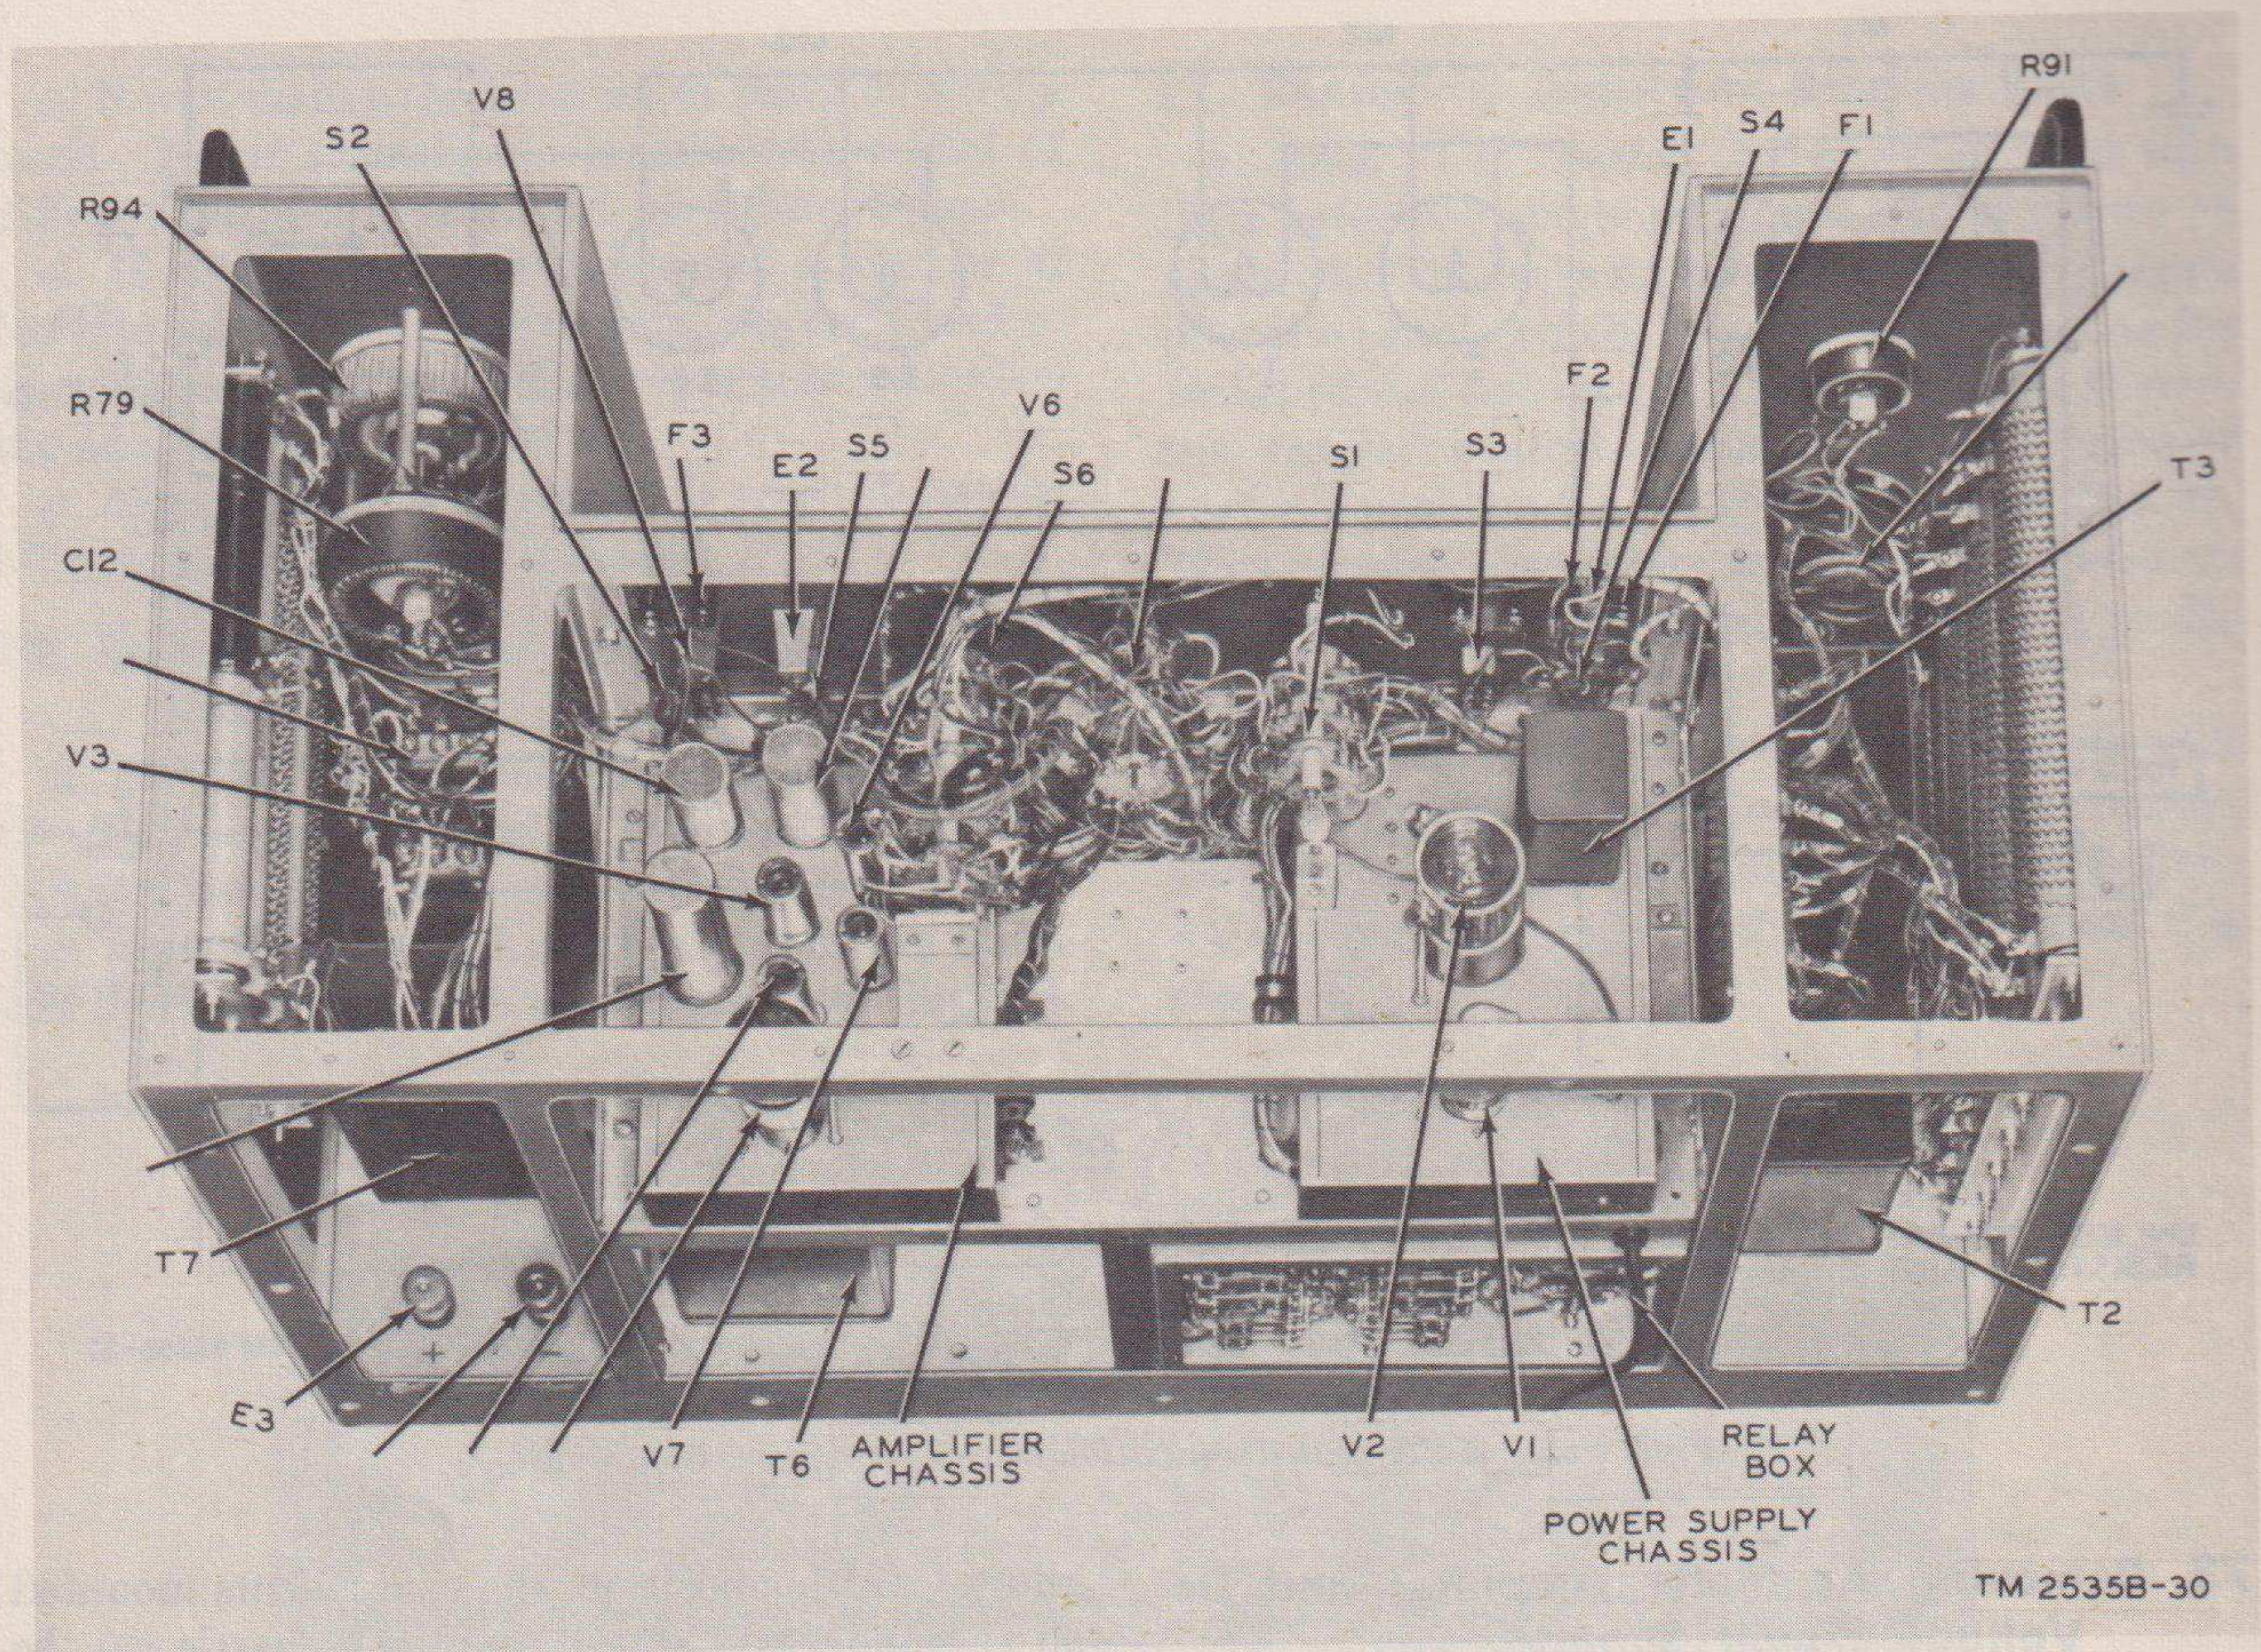
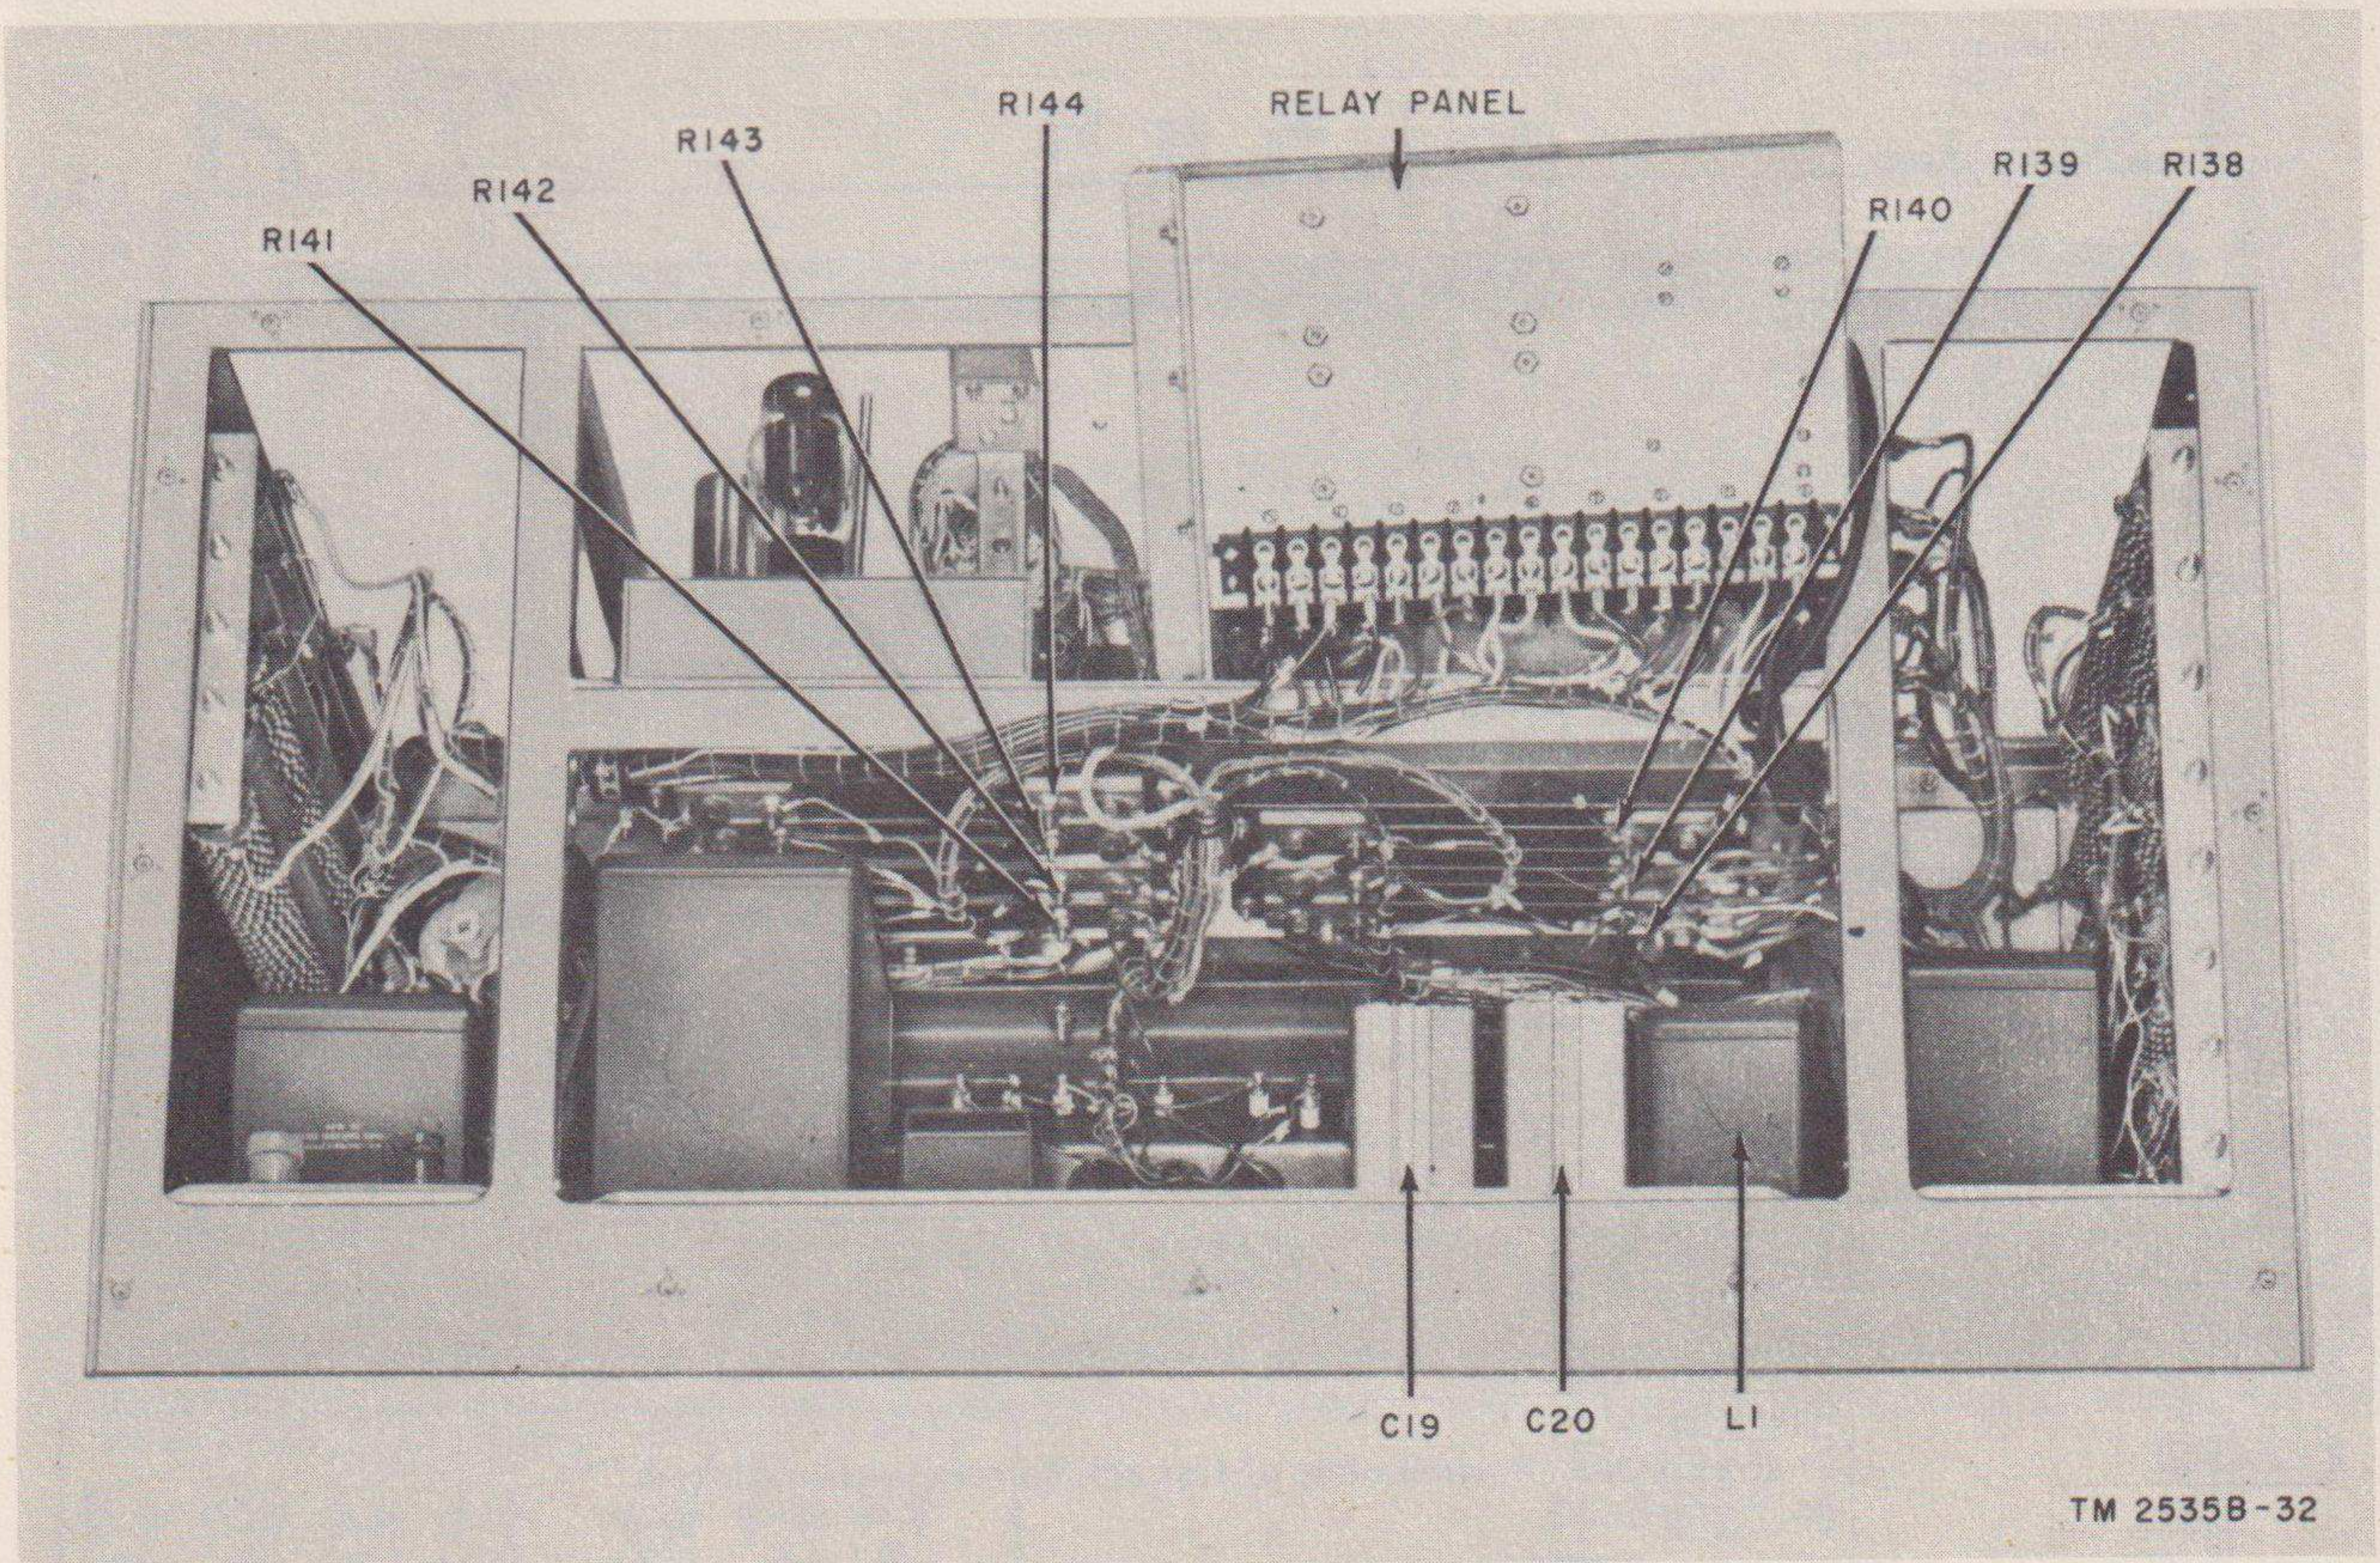

Figure 34. Top of test set, top and rear panels removed.
Figure 38. Rear of test set with relay panel removed.
Rectifier tube V1 defective (fig. 26)---	Test tube V1 (fig. 34, par. 66a). Replace if defective (par. 45a).
Winding 4-5 (2.5 volts) of transformer T2 defective (fig. 26).	Check winding 4-5 of transformer T2 (fig. 34, par. 66i). Replace transformer if defective (par. 78a).
Powerstat T3 defective-----	Check powerstat T3 (fig. 34, par. 66i). Replace if defective (par. 78c).
Selector switch S1 defective (fig. 26)---	Check switch S1 (fig. 34, par. 66e). Replace if defective (par. 72a).
Powerstat T3 defective (fig. 27)-----	Check powerstat T3 (fig. 34, par. 66i). Replace if defective (par. 68c).
Rheostat R61 defective-----	Check rheostat R61 (fig. 34, par. 66h). Replace if defective (par. 72b).
Selector switch S1, S6, or S7 defective.	Check switches S1, S6, and S7 (fig. 34, par. 66e). Replace if defective (par. 72a).
Powerstat T3 defective (fig. 27)-----	Check powerstat T3 (fig. 34, par. 66i). Replace if defective (par. 78c).
Rheostat R91 defective-----	Check rheostat R91 (fig. 34, par. 66h). Replace if defective (par. 72b).
.15-ampere fuse F3 defective-----	Check fuse F3 (fig. 34, par. 46a). Replace if defective (par. 45c).
.15-ampere fuse F3 burned out-----	Check fuse F3 (fig. 34, par. 46a). Replace if defective (par. 45c).
Selector switch S1, S6, or S7 defective.	Check switches S1, S6, and S7 (fig. 34, par. 66e). Replace defective switch (par. 72b).
Powerstat T3 defective.....	Check powerstat T3 (fig. 34, par. 66i). Replace if defective (par. 78c).
Rheostat R91 defective.....	Check rheostat R91 (fig. 34, par. 66h). Replace if defective (par. 72b).
Tube V3, V4, V5, or V1 defective (fig. 15).	Test tubes V3, V4, V5, and V1 (fig. 34, par. 66a). Replace defective tube (par. 45a).
Selector switch S1 defective.....	Check switch S1 (fig. 34, par. 66e). Replace if defective (par. 72).
Tube V3, V4, or V5 defective (fig. 15) ..	Test tubes V3, V4, and V5 (fig. 34, par. 66a). Replace defective tube (par. 45a).
a. *Switches.* The switches are located on the recessed panel of the test set (fig. 2). All the switches can be reached for removal by removing the top panel of the test set (fig. 34).
b. *Output Controls.* The output controls are located on either side of the U-shaped panel on the front of the test set (fig. 2). To replace any one of these controls, remove the top and rear panels. Output controls R61, R94 and R97, R91, and T3 are shown in figures 34 and 35.
The switching and overload relay panel is mounted vertically just inside the rear panel of the test set (figs. 34 and 35). The wiring harness to the terminal strips on the relay panel is long enough so that the panel can be removed (fig. 38) for replacement of relays and to gain access to the meter shunts (par. 77) without disconnecting the wiring. Remove the thumbscrews which fasten the panel to the mounting brackets on either side, pull the panel forward, and raise it as shown in figure 38.
Meter shunts R138 through R144 are located on the underside of the aluminum plate on which the amplifier chassis and power supply chassis are mounted (fig. 38). To inspect or remove any of these shunts, remove the relay panel and swing it up out of the way (par. 74).
b. Transformer T5. Transformer T5 is mounted on the power supply chassis (fig. 34). To remove this transformer, remove the power supply chassis (par. 73b), remove the four lug nuts and the mounting nuts and bolts located underneath the small resistor mounting board (fig. 37), and remove the transformer.